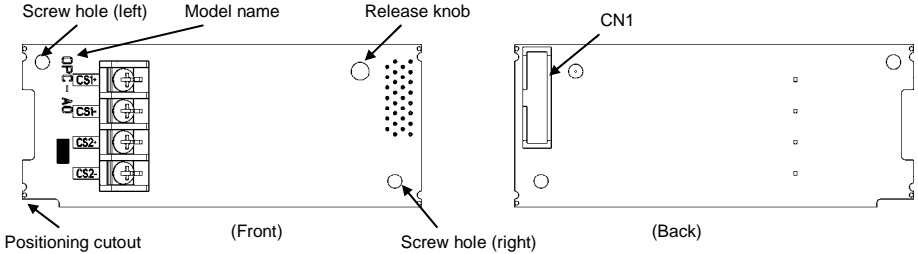

Figure 1.1 Name of Parts on Analog Output Interface Card (OPC-AO)
- (1) An interface card, two screws (M3 × 8), and the Analog Output Interface Card Instruction Manual (this manual) are contained in the package.
- (2) The interface card is not damaged during transportation--no defective parts, dents or warps.
- (3) The model name "OPC-AO" is printed on the interface card. (See Figure 1.1.)
- (2) Insert connector CN1 on the back of the interface card(Figure 1.1) into the option connection ports on the inverter's control PCB. Then tighten the two screws that come with the card. (Figure 1.3)
Check that the positioning cutout (shown in Figure 1.1) is fitted on the tab (① in Figure 1.2) and connector CN1 is fully inserted (② in Figure 1.2). Figure 1.3 shows the interface card correctly mounted.
- (3) Perform wiring on the interface card.